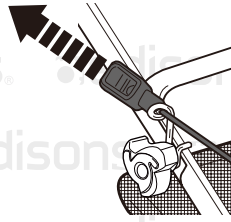

Fig. 10
1. Slowly pull on the recoil starter handle (23) and fit it into the rope guide (26) on the right hand side of the upper handle (5) during operation (Fig. 10). Do not remove the recoil starter from the rope guide.